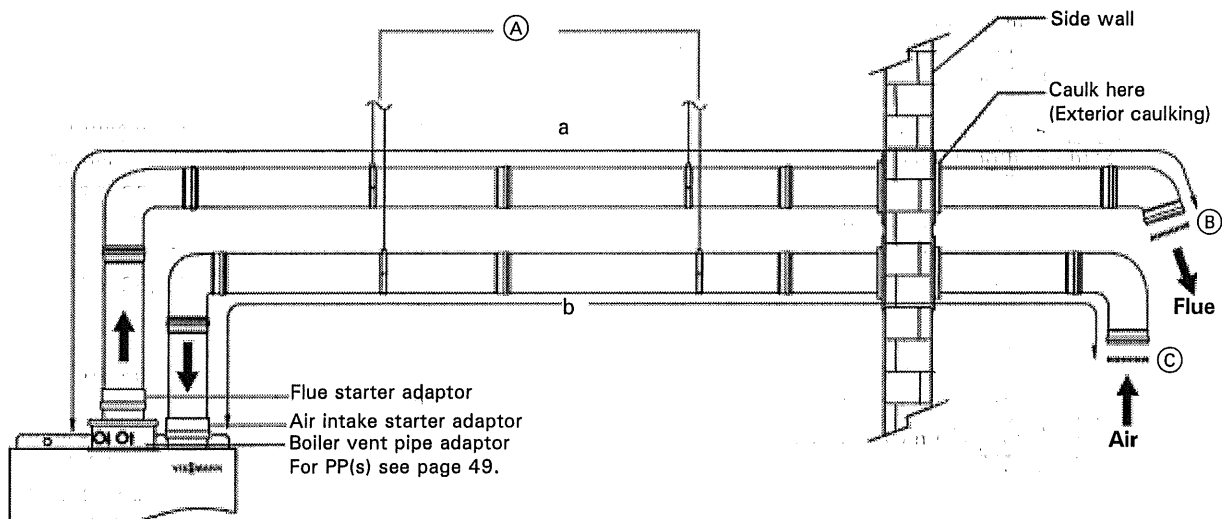

Fig. 50 Vitodens 100-W and 200-W WB2B 19, 26, 35
See table 24 and fig. 50 and 51 for reference.
*2 See figure 50 and 51.